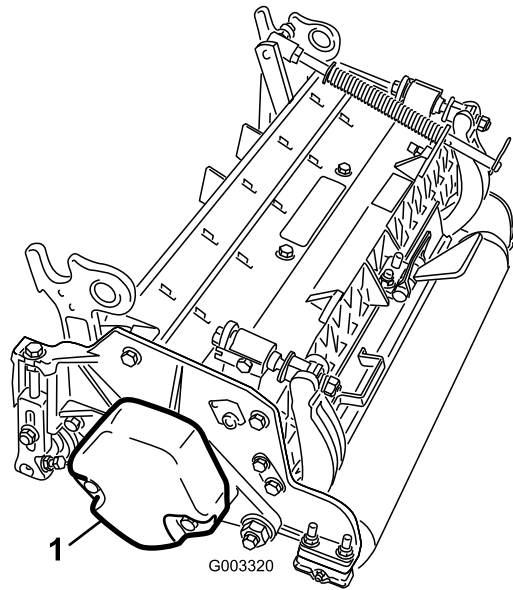

Figure 4
4. Make sure that the counter weight (Figure 4) is installed to the proper end of the cutting unit as described in the cutting unit *Operator's Manual*.